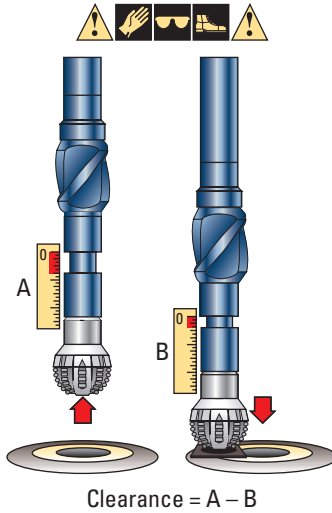

Fig. 3-1. Determining axial bearing clearance.
3. Before the bit is installed, check the bearing clearance or axial play of the motor by measuring the distance between the lower part of the bearing section and the top of the bit sub. Measure the distance twice, first with the motor hanging free in the elevators, then with the full weight of the motor sitting on the rotary table (Fig. 3-1). The difference between the two distances is the amount of axial bearing clearance. Record the two measurements and compare them with the figures shown in the documentation supplied with the motor. Repeat this check after the motor has been run to determine the amount of bearing wear that occurred during the run. The maximum allowable clearance for both the preinstallation check and after running is shown in Table 3-5.